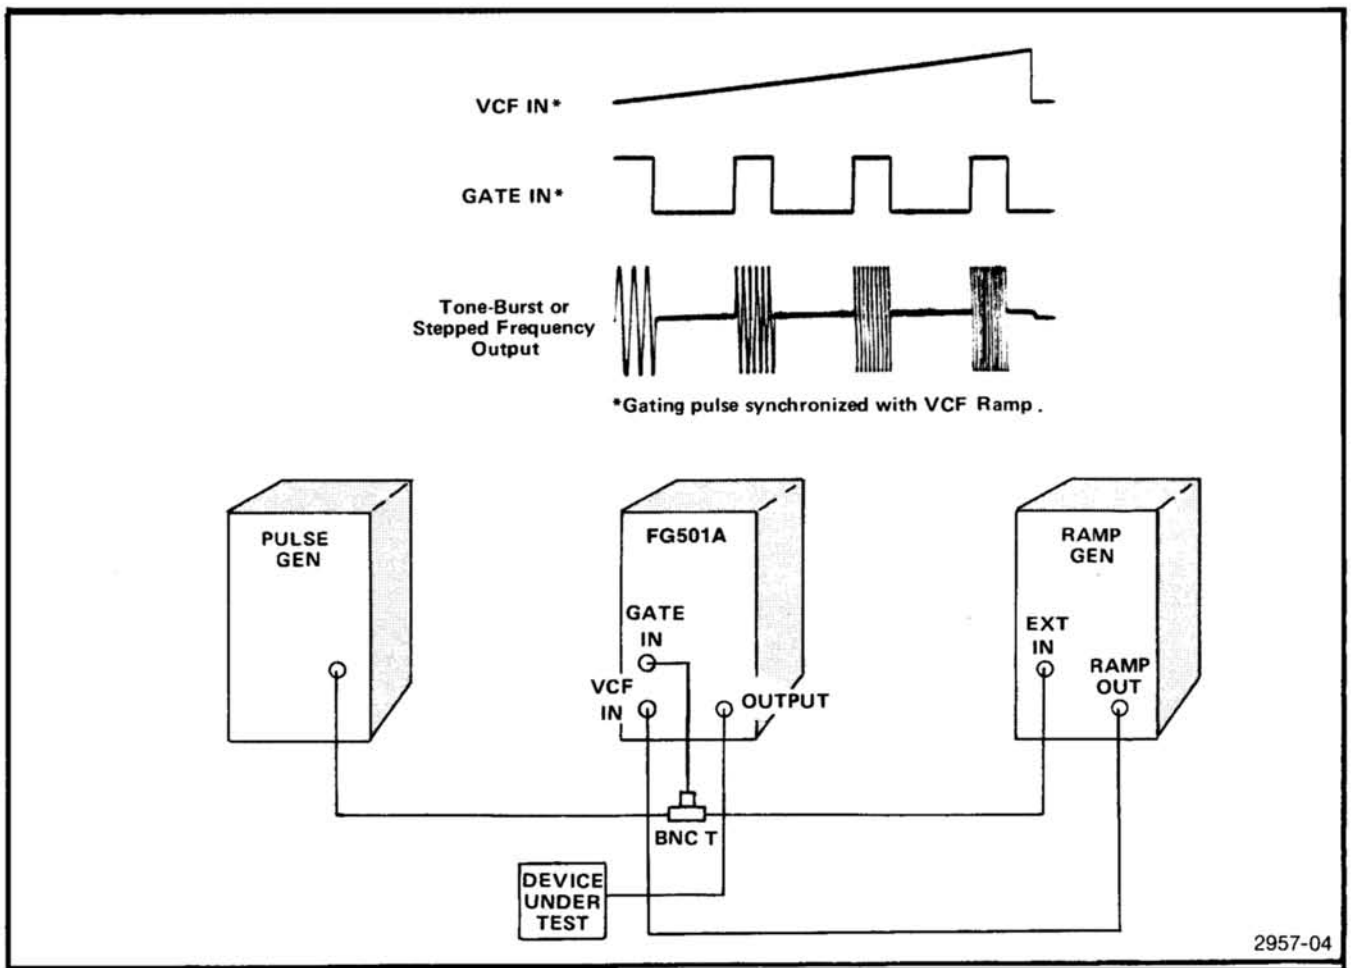

Fig. 2-12. Tone-burst generation or stepped frequency multiplication.
1. Connect the equipment as shown in Fig. 2-12.